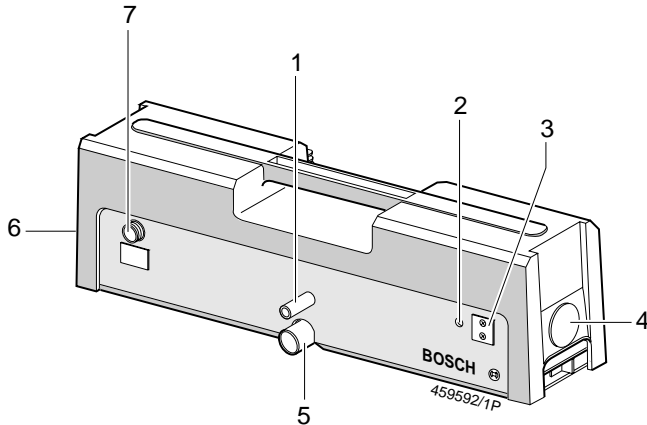

Figure 1: RTM 430
- If available, fit the hose for exhaust-gas recirculation- (special accessories) on the connecting pipe (Fig. 1; Pos. 5) of the RTM 430 and connect to the extraction system.
1. Remove the cover (Fig. 1; Pos. 4,6) at the side walls using a suitable tool (e.g. screwdriver).